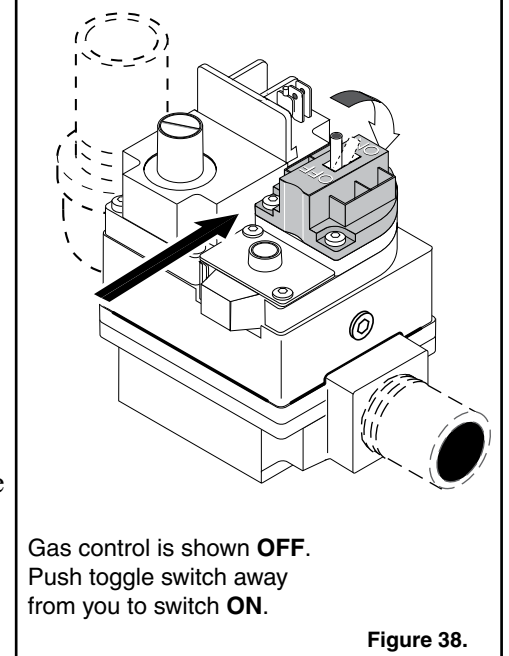

Figure 38.
3. Turn off all electric power to the appliance. **Turn OFF the Manual Shut-Off Valve**, see Figure 38.
6. **Toggle-Style Valve:** Pull toggle toward you to turn gas off, see Figure 38.
7. Wait five (5) minutes to clear out any gas. **If you then smell gas, STOP! Follow “B” in the “Before Start-up” instructions (page 38). If you don’t smell gas, go to the next step.**
4. **Toggle-Style Valve:** Pull toggle toward you to turn gas off, see Figure 38.